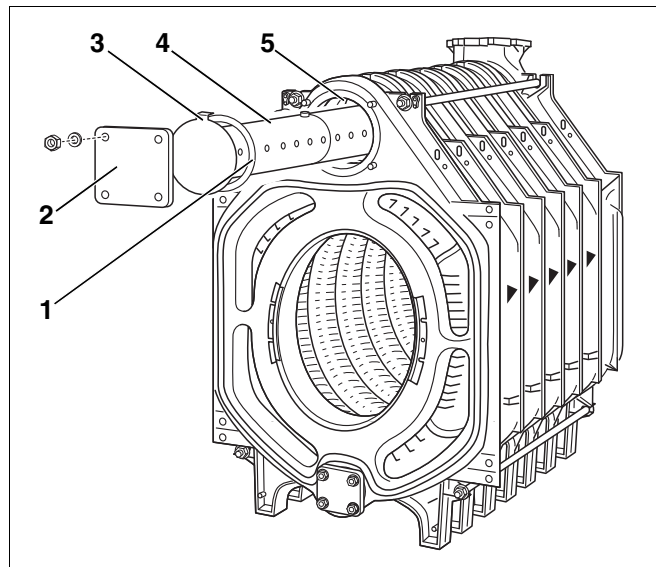

Fig. 24 Installing the feed pipe
With boilers that are made up of 10–12 sections, the feed pipe (Fig. 24, [4]) comes in 2 parts.
- ▶ Slide gasket over the feed pipe (Fig. 24, [1]).
- ▶ Close off with dummy flange (Fig. 24, [2]).
- ▶ Make sure that the lug (Fig. 24, [3]) on the end plate of the feed pipe fits in the recess in the upper boiler hub (Fig. 24, [5]).